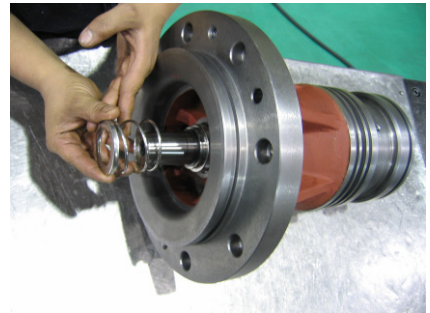

Fig.7 Assembly of rotating part (회전체의 조립)
7. The rotating part of mechanical seal is assembled as shown in Fig.7.